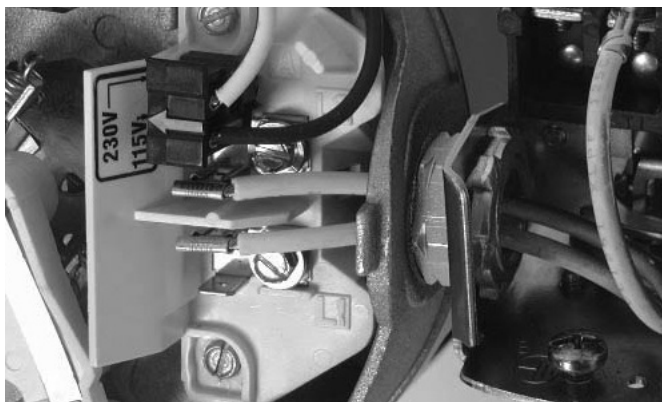

Figure 7 - Voltage set to 115 V, Plug Type
3. Move the voltage change plug to the 115 V position. The plug will now cover 2 metal tabs and the arrow on the plug will line up with the 115 V arrow on the label (see Figure 7).